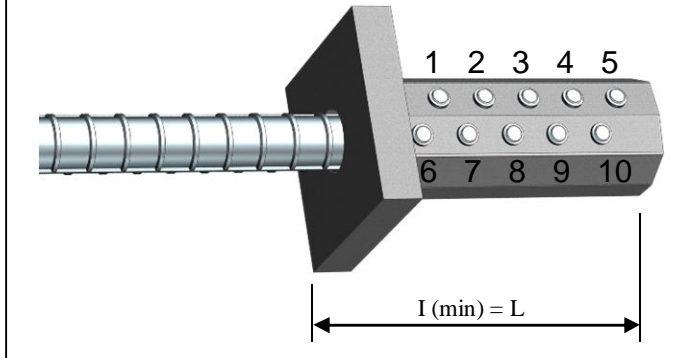

Figure 5. Tightening Order for Alternative Assembly
* If the Zap T-LOK is assembled in the alternative (reverse) orientation as shown in Figure 5, then the minimum insertion length (I) is equal to the overall length (L).